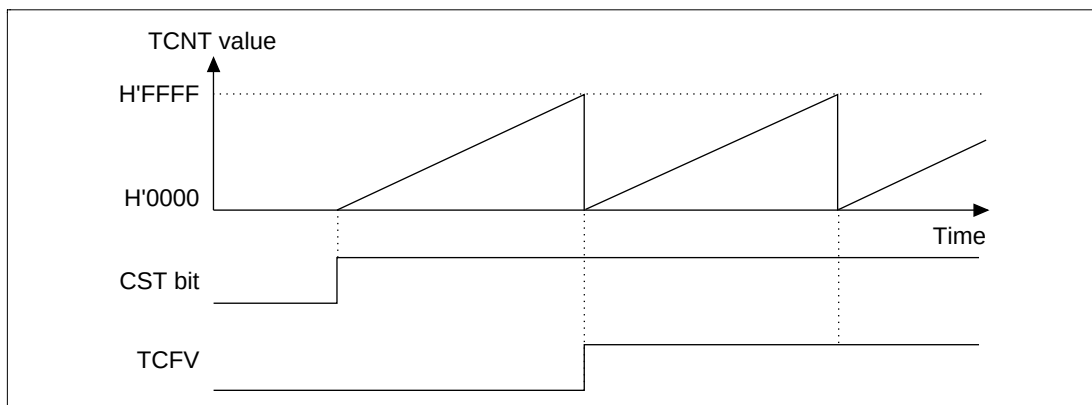

**Figure 12.8 Free-Running Counter Operation**
**Free-Running Counter Operation Example:** A reset of the MTU timer counters (TCNT) leaves them all in the free-running mode. When a bit in the TSTR is set to 1, the corresponding timer counter operates as a free-running counter and begins to increment. When the count overflows from H'FFFF–H'0000, the TCFV bit in the timer status register (TSR) is set to 1. If the TCIEV bit in the timer's corresponding timer interrupt enable register (TIER) is set to 1, the MTU will make an interrupt request to the interrupt controller. After the TCNT overflows, counting continues from H'0000. Figure 12.8 shows an example of free-running counter operation.